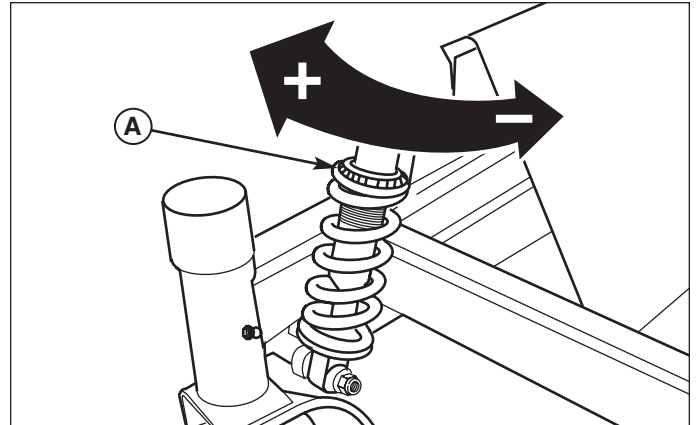

Figure 15. Suspension Adjustment
2. See Figure 15. Turn the pre-load adjustment collar (A) CLOCKWISE to increase the pre-load, turn COUNTER-CLOCKWISE to decrease the pre-load. Make sure both front shocks are set to the same amount of pre-load. Make sure both rear shocks are set to the same amount of pre-load.